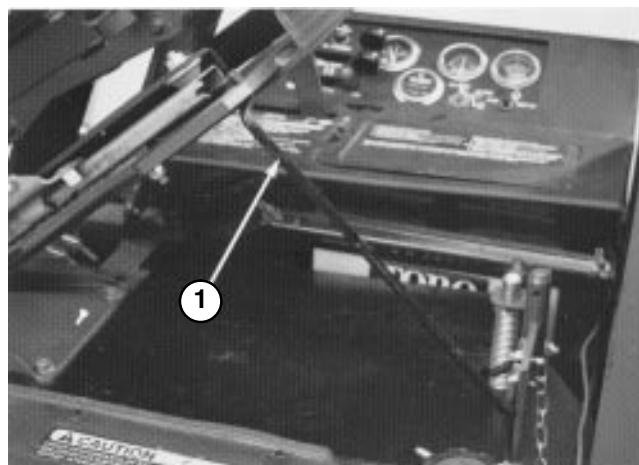

Figure 10
- Hold seat up with seat support rod (Fig. 10).
12. Hold seat up with seat support rod (Fig. 10).